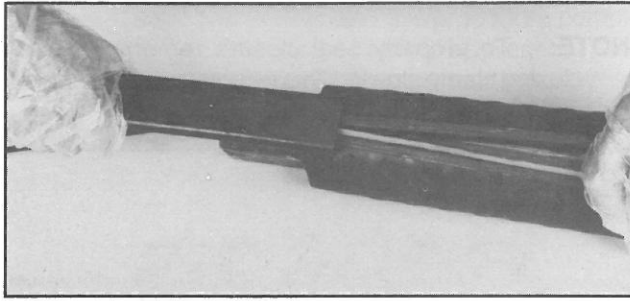

FIGURE 6 - SLIDE ON CLOSING CLAMP
- 3.09** Starting at one end, squeeze halves together enough to start V-notched end of closing clamp. (Figure 6)